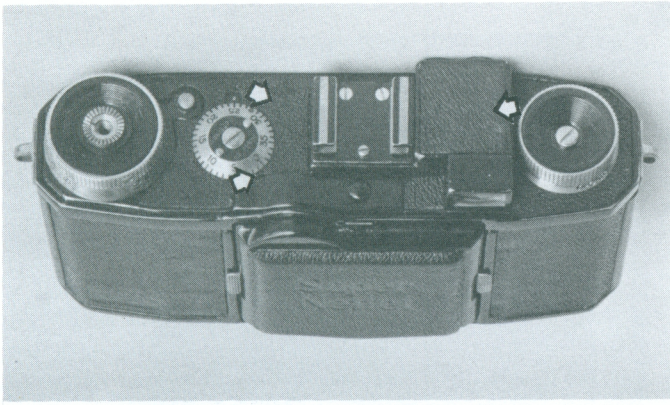

Figure 3.
1. Remove the exposure counter disk held by its central screw as shown in Figure 3. (Don't overlook any washers.)
6. After unscrewing another long screw on the right side of viewfinder (all three screws are marked in Figure 3), the range-viewfinder assembly can be removed.